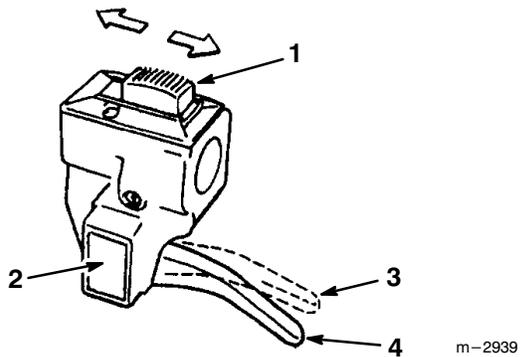

Figure 12
3. Lock the throttle trigger in the fast-idle start position, then pull the starter handle (Figs. 12 and 11).
- B. Make sure the throttle trigger is set to the fast-idle start position (Fig. 12).
1. Release the throttle trigger (Fig. 12).
2. Slide the stop switch to the “STOP” position (Fig. 12).